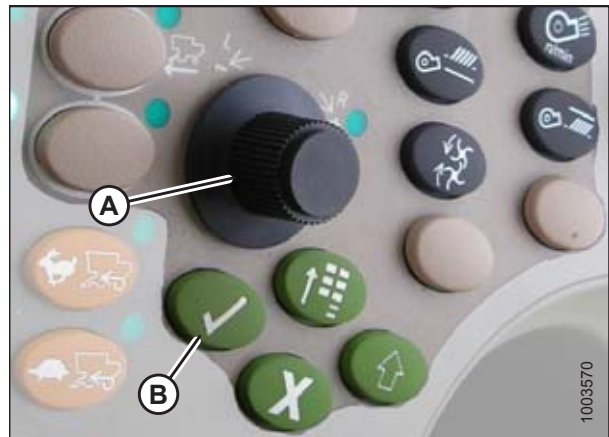

Figure 3.403: John Deere Combine Control Console
6. Select HEADER in box (A) by scrolling down to the box using the scroll knob, and then pressing the check mark button (knob and button are shown in Figure 3.403, page 264).
7. Scroll down to the lower right icon that resembles an arrow in a diamond (B) and press the check mark button to select it.